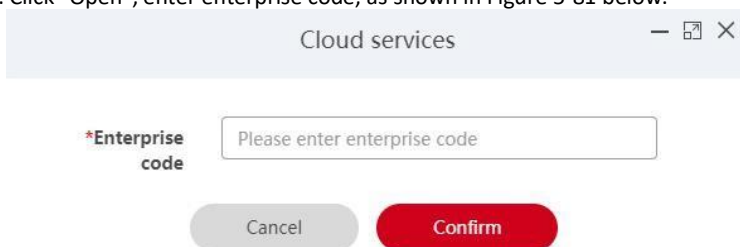

Figure 5-81
Step 2: Click "Open", enter enterprise code, as shown in Figure 5-81 below.